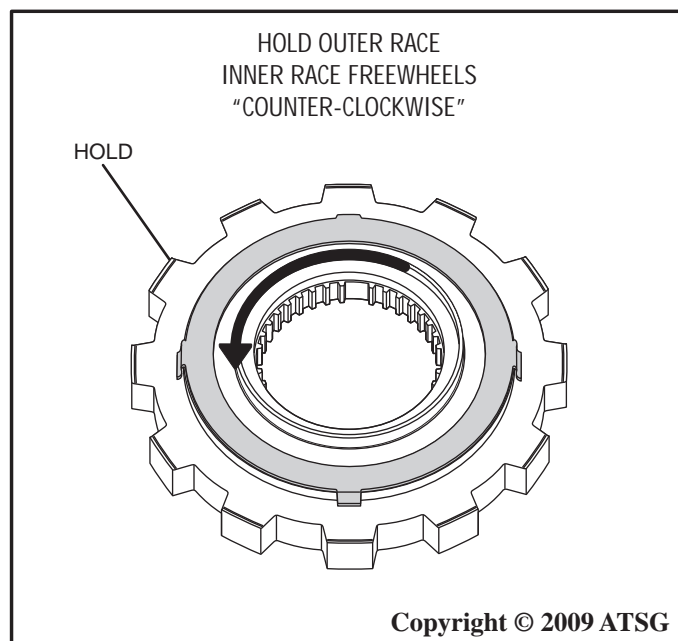

Figure 121
10. Check freewheel operation of the No. 1 one-way clutch (F1) as shown in Figure 121.